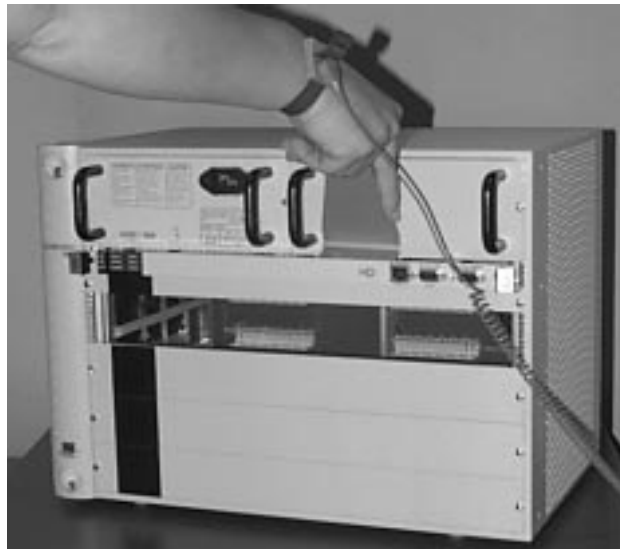

Figure 2-4 Sliding the Switch Module Out
- 7 Raise the key and slide the switch module out (Figure 2-4).